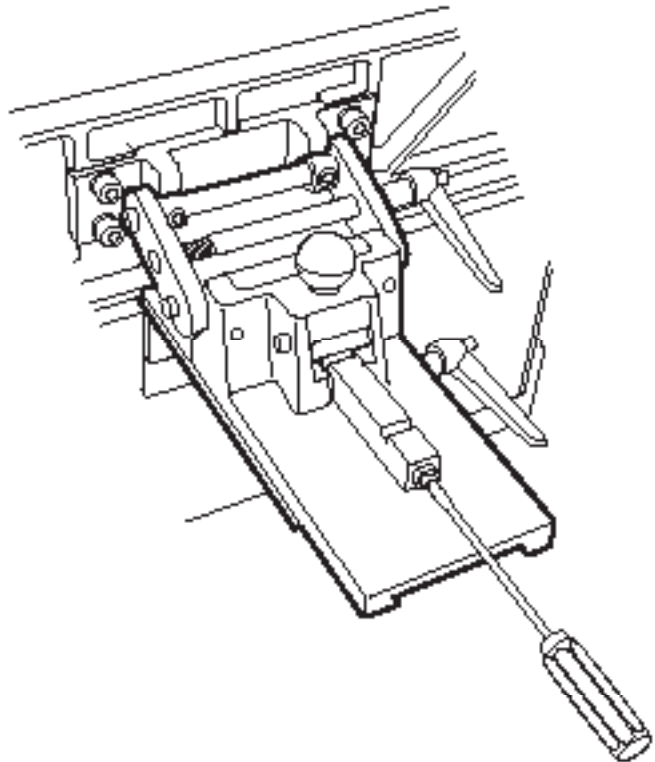

FIGURE 17
5. Use a flat head screwdriver to adjust the position of the Stop rod. Refer to Figure 17. Turning the rod clockwise reduces the fence angle while rotating it counterclockwise increases the fence angle.